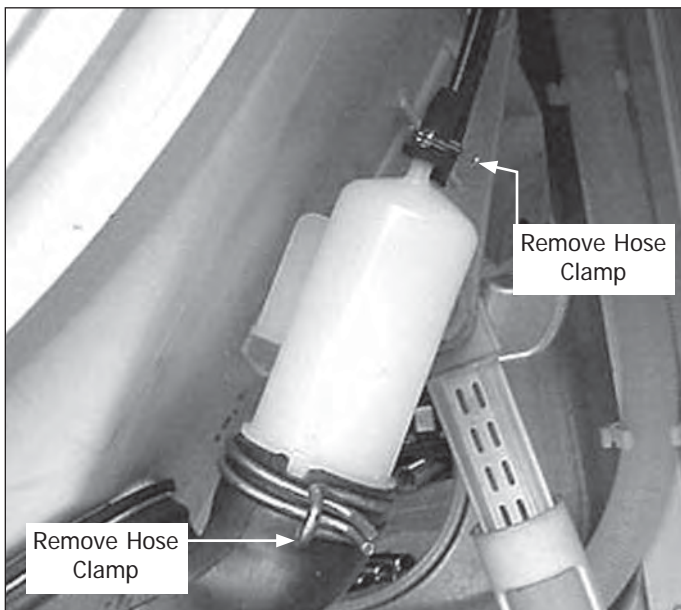

Figure 4-98.
2. Remove the (2) hoses, (1) from each end. (See Figure 4-98)